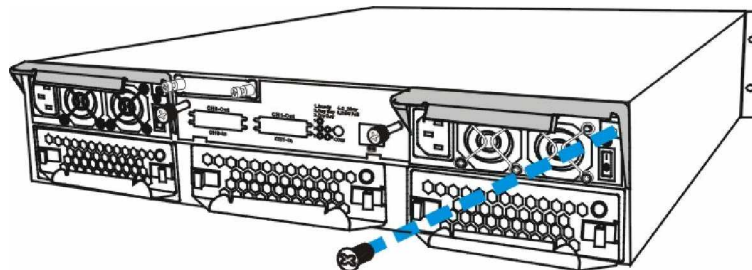

Figure 5- 7: Removing the PSU Retention Screw
Step 3. Remove the retention screw: After the power cable has been removed from the power connector, remove the retention screw at the upper right side of the PSU rear-end panel. (See **Figure 5- 7**) The screw is located below the extraction lever, beside the LED indicator, and can be hidden from sight.
Step 4. Pull the extraction handle downward: Push the extraction lever at the back of the PSU module downwards. This will dislodge the PSU module from the subsystem. Once dislodged, gently pull the PSU module out of the subsystem. (See **Figure 5- 8**).